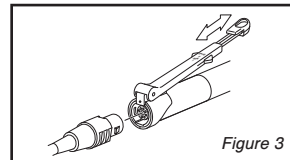
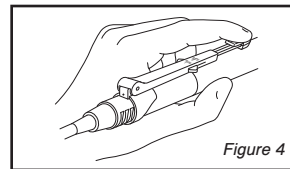

Figure 3
Figure 4
3. Plug cord into handpiece. Figure 3.
4. Adjust finger rest as needed. Figure 3. The handpiece can be held like a pencil. Figure 4.